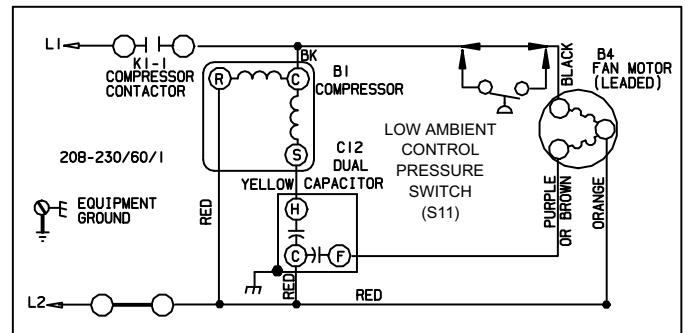

Figure 3. Typical Field Wiring of Low Ambient Control Pressure Switch (S11)
- 3a. If the unit has a mechanical fitting high pressure switch, remove the switch and install the end of the tee to the pressure tap fitting where you removed the high pressure switch. Connect the unit high pressure switch onto the last port with the valve core. Run the wires in the back of the control panel through the hole with the compressor wires. Wire the pressure switch per figure 3 wiring diagram. Make all electrical connections in the control box.
- 3b. If the unit does not have a mechanical fitting high pressure switch, install tee fitting on the condensing unit liquid line service port. Run the wires up into the control box. Wire the pressure switch as per figure 3 wiring diagram. Make all electrical connections in the control box.
5. - Low ambient control pressure switch (S11) is wired in series with condenser fan. See figure 3 for typical field wiring for the low ambient control pressure switch.